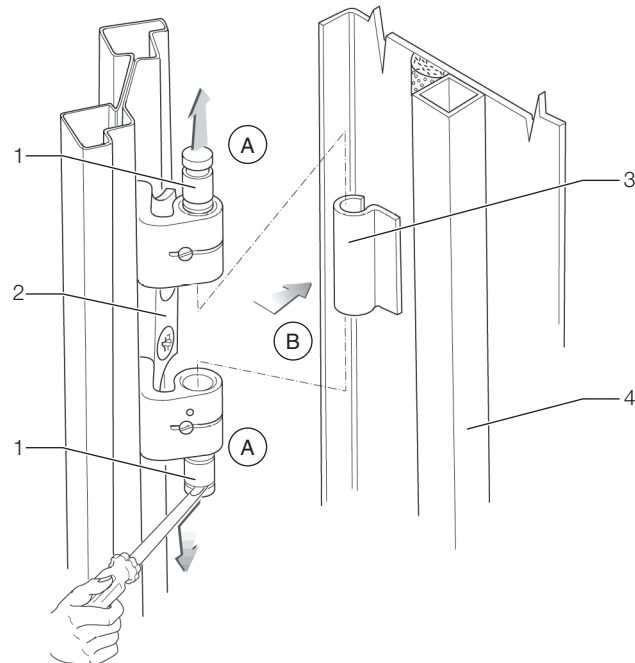

Fig. 2: Door hinge – dismantling
- Loosen the hinge bolts from the four door hinges by raising them with an appropriate tool (e.g. screwdriver). Pull the bolts out of the hinge bolt holding fixture up to the catch (see Fig. 2, Step A). Begin with the lowest door hinge.
- Remove the server enclosure door (see Fig. 2, Step B).